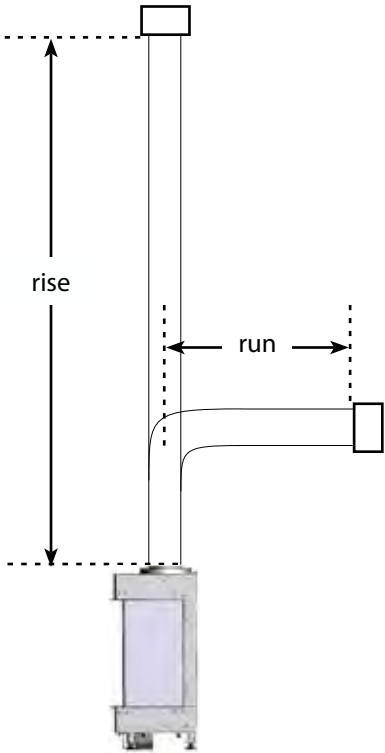

Figure 15
- All measurements are taken from the center of the vent connector on the top of the fireplace (see *Figure 15*) and all configurations must fall within the acceptable range of the model-specific diagrams.